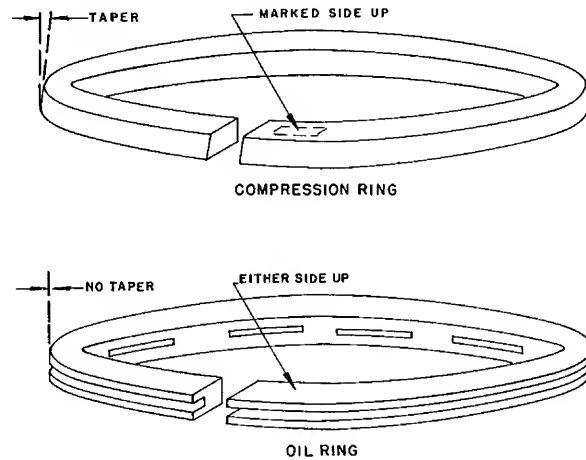

FIG. 25 - PISTON RINGS
2. Install the compression rings on the piston with the side marked "Top" toward the head of the piston. (See Fig. 25.) Install the oil rings with either side up. (They have no taper.)